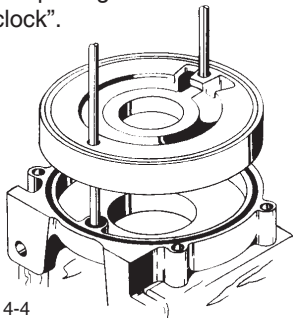

Figure 4-4
4. Place an "O" ring (#7) into the groove in the face of the cover (#1). Slide a left hand channel ring (#10) onto the guide rods with the water channel facing up.(refer to figure 4-4) With the pump feet in the "six o'clock" position, the large inlet opening should be at "eleven o'clock".